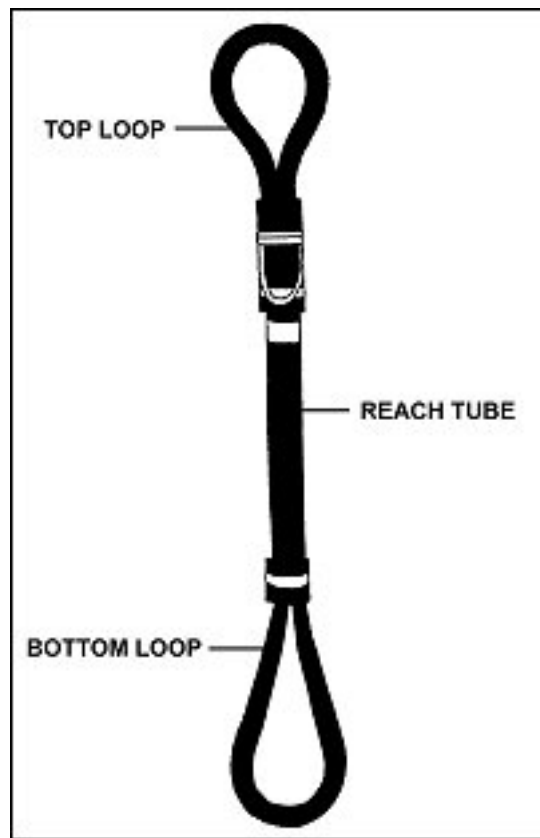

Figure 5-5. Reach pendant.
d. **Reach Pendants.** A reach pendant is a synthetic rope assembly with an attached, stiffened reach tube and a loop on each end. The built-in reach tube enables the hookup man to place the pendant's top eye on the helicopter cargo hook while the helicopter hovers at a higher distance over the load (Figure 5-5). Two reach pendants are authorized for use with slingloads. To use either pendant with a sling set, remove the sling set apex fitting pin; place the pendant's lower eye in the apex fitting; and reinstall the apex fitting pin.